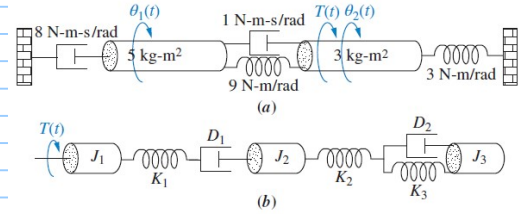

FIGURE P2.17
32. For each of the rotational mechanical systems shown in Figure P2.17, write, but do not solve, the equations of motion. [Section: 2.6]